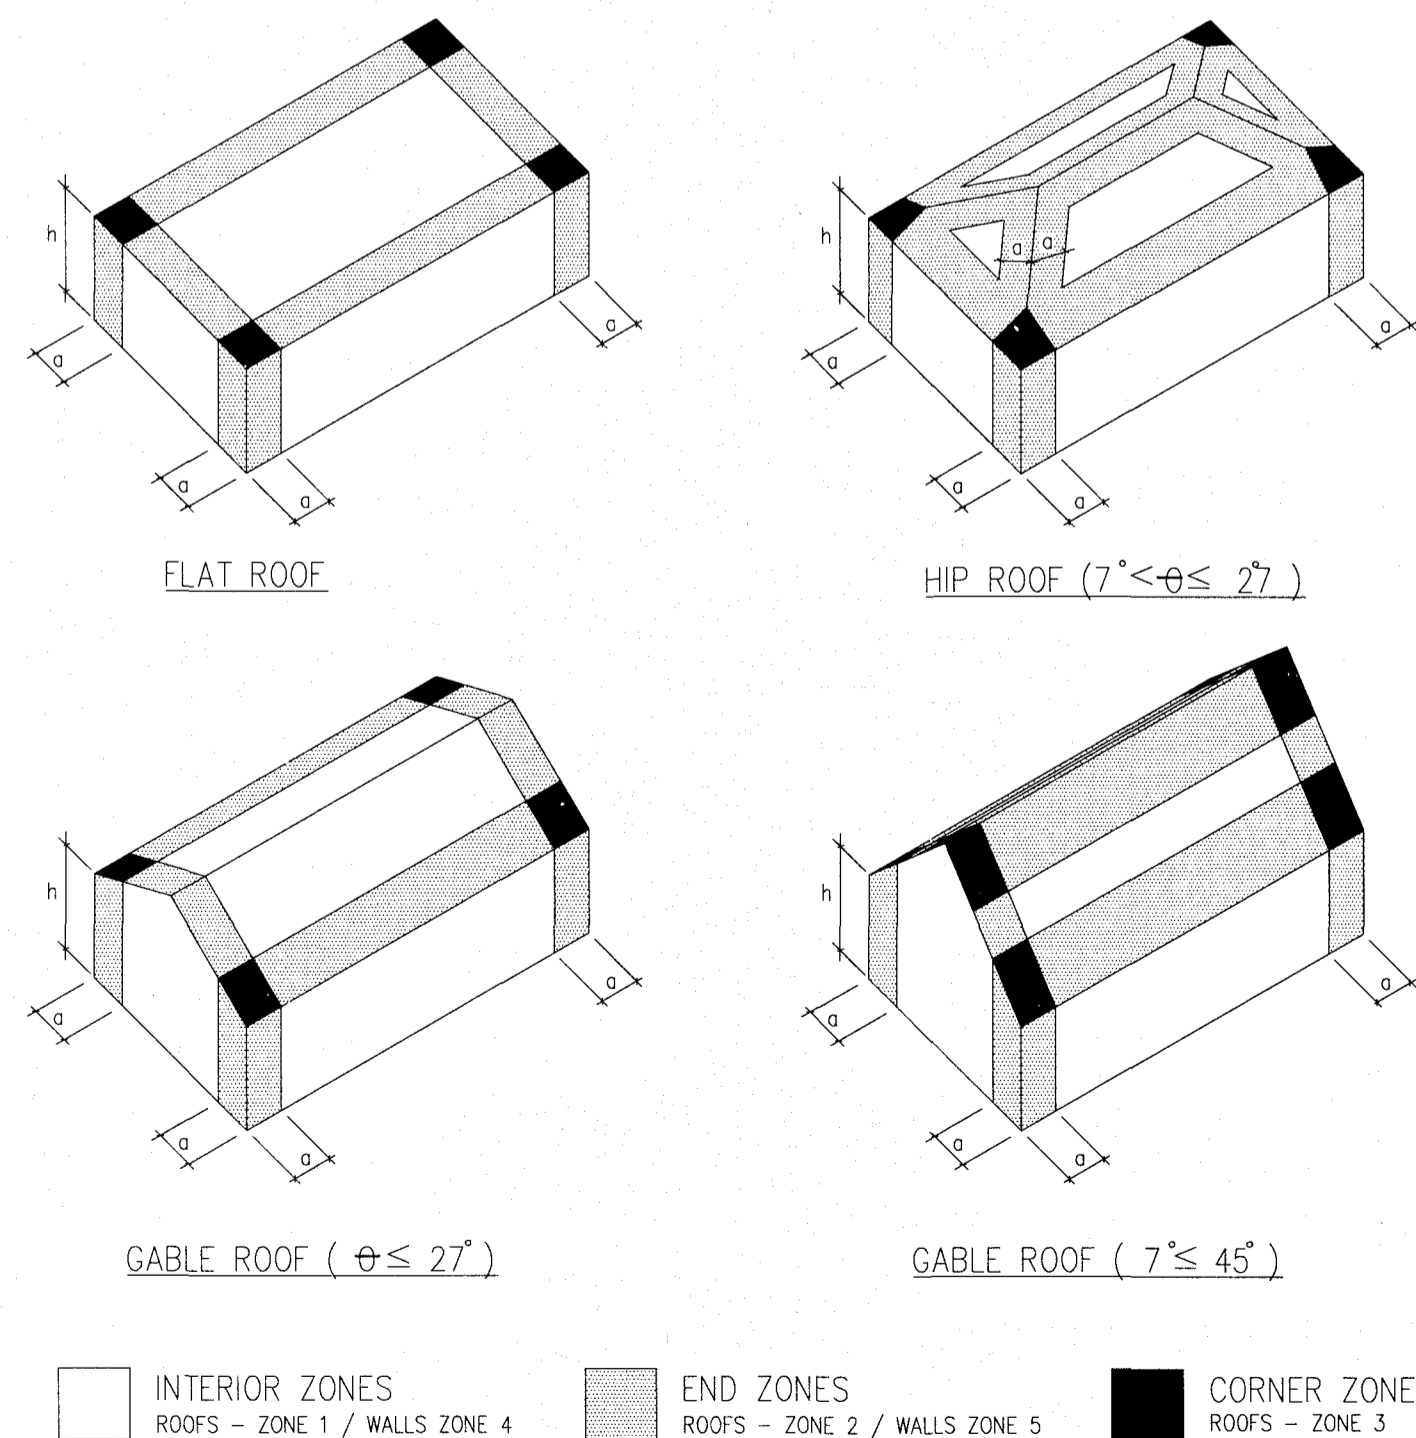

FIGURE R301.2(7) COMPONENTS AND CLADDING PRESSURE.
d. See Figure R301.2(7) for location of zones.